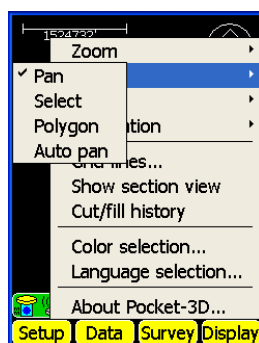

Figure 3-22. View Coordinate Information
1. Cycle through the view buttons on the toolbar to access a **Selection** button, or press **Display ▶ Cursor ▶ Select** (Figure 3-22).